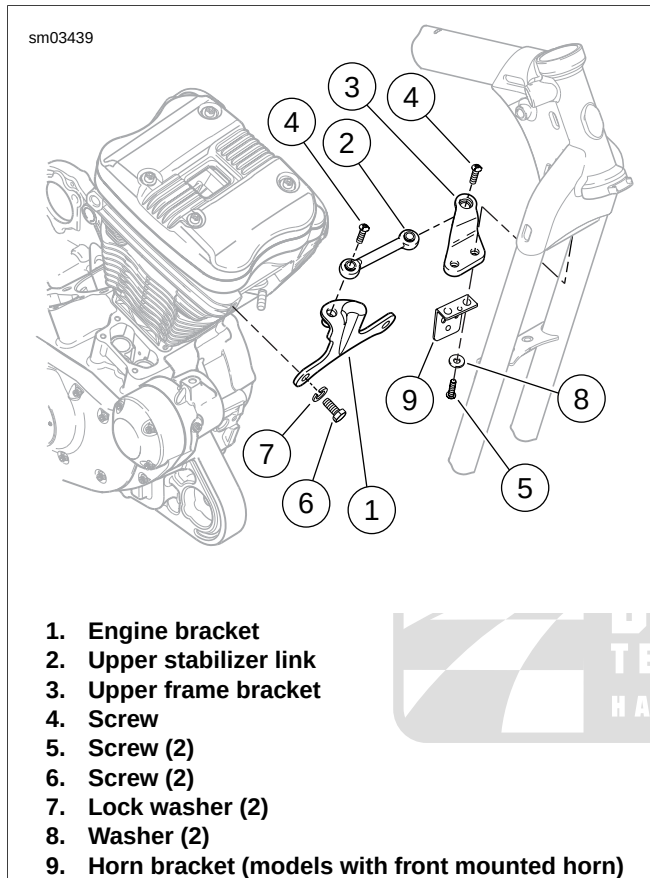
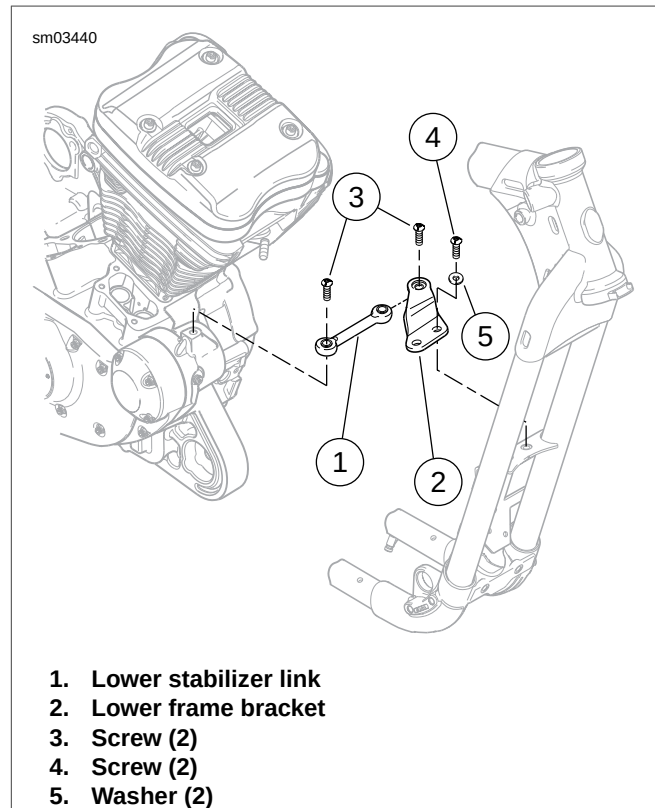

Figure 3-16. Upper Front Stabilizer Link Assembly: Typical (XL Model Shown)
Figure 3-17. Lower Front Stabilizer Link Assembly: Typical (XL Model Shown)
28. See Figure 3-16. Remove upper stabilizer link (2) and upper frame bracket (3):
- a. Remove screw (4) securing stabilizer link to engine bracket (1).
- b. Remove screws (5) and washers (8). Remove horn bracket (9) (models with front mounted horn) and upper stabilizer link bracket with stabilizer link.
29. See Figure 3-17. Remove lower stabilizer link (1) and lower frame bracket (2):
- a. Remove screw (3) securing stabilizer link to engine crankcase boss.
- b. Remove screws (4), washers (5) and lower frame bracket with stabilizer link.